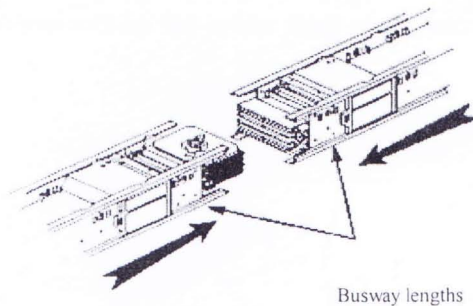

Figure 1: Position the busway lengths
2. Slide the busway lengths together end-to-end (Figure 1). Loosen the bolts through the joint pack, but do not remove them.